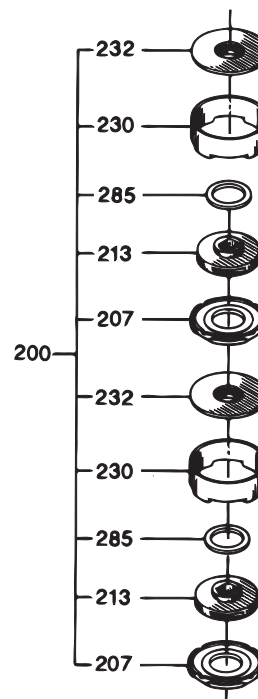

Fig. 14 Wear parts
For the replacement of wear parts including impellers, see fig. 14, a service kit (product number 125061) is available. The kit includes two complete pump stages. Replace the wear parts including impellers as shown in section 10. *Dismantling and assembly.*
In addition, a service kit (product number 1A5050) is available. This kit includes wear parts for two pumps, i.e. 4 washers, pos. 285, and 4 seals, pos. 207. See fig. 14.